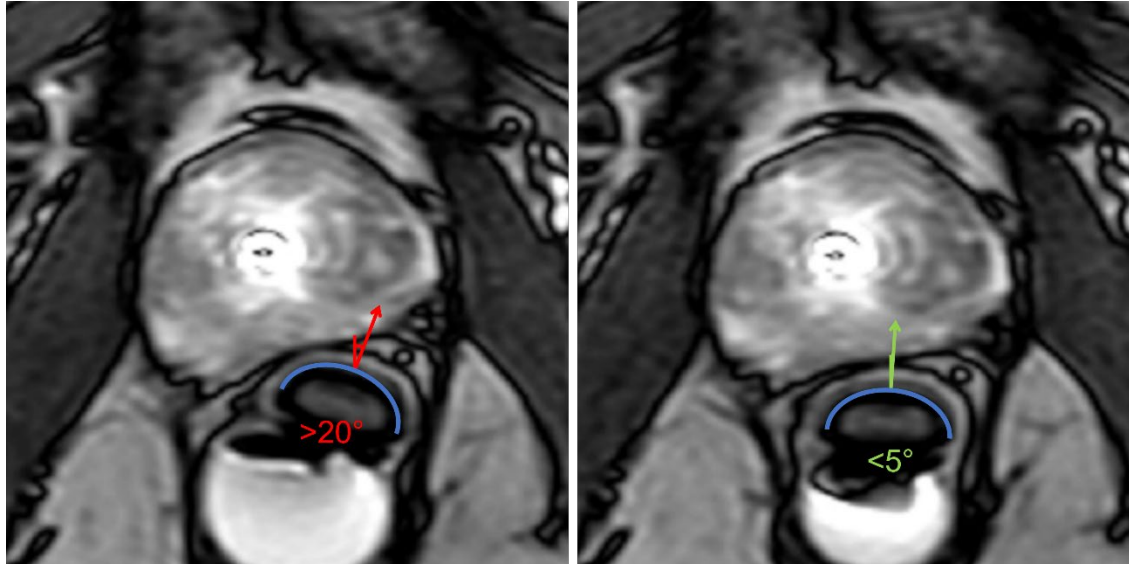

Figure 30. Axial images depicting ECD oriented incorrectly (left, rotated more than 20 degrees) and correctly (right, facing up towards the prostate).
- b. The orientation of the cooling window should face the prostate (anterior), as confirmed on the axial MRI (Figure 30).